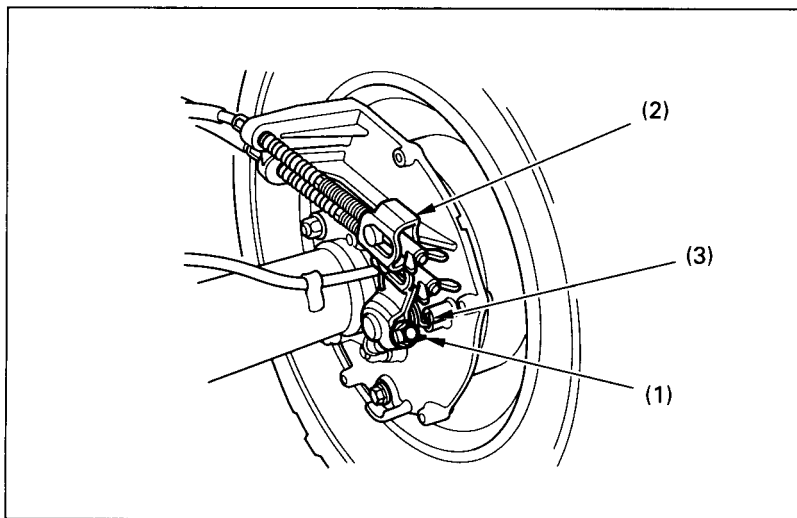

Fig. 4-30
When the brake is applied, an arrow (1) attached to the brake arm (2) moves toward a reference mark (3) on the brake panel (see Fig. 4-30).